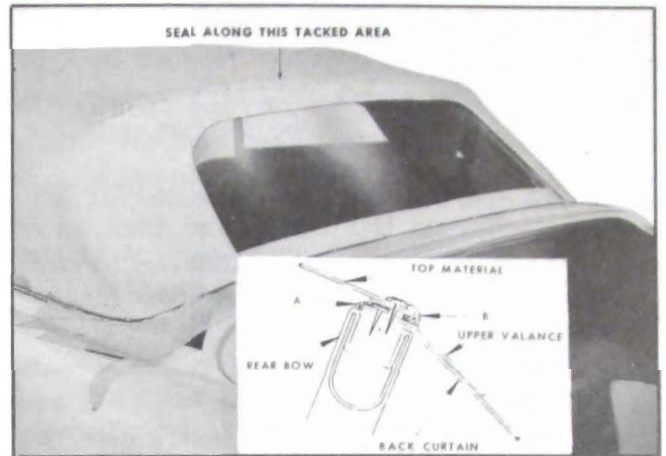

Figure 13-113—Sealing at Rear Bow
29. After the rear edge of the forward section of the top material (with the factory installed tape) has been tacked to the rear roof bow and the edges trimmed off, apply a bead of 3M Super Weatherstrip Adhesive (or equivalent) to the edge of the trim material, around each tack head, and into the two holes pierced into the top material for the wire-on binding clip escutcheons. See "B" in the inset in Figure 13-113.